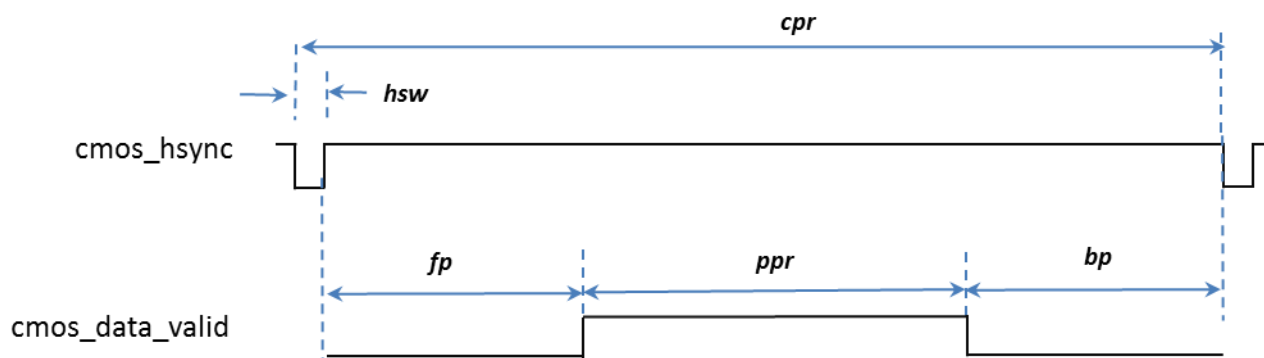

Figure 54: Line Timing of the CMOS Output Channel
3. Each row period consists of four distinct sections, as depicted in Figure 54: